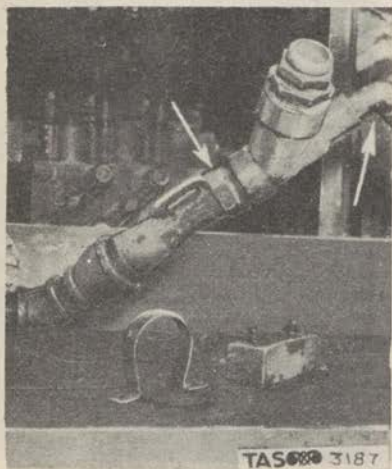

Figure 120. Assembly Raised
(2) Raise the assembly. (Fig. 120)
(3) Disconnect the inlet body by using wrenches at the points indicated by arrows in figure 120.